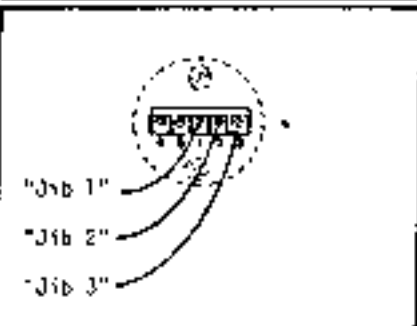

Fig. 3-27
- (g) Remove the bottom cover plate on the control meter by removing the two screws. Removal will reveal calibration screws for jib positions. (See Fig. 3-27.)